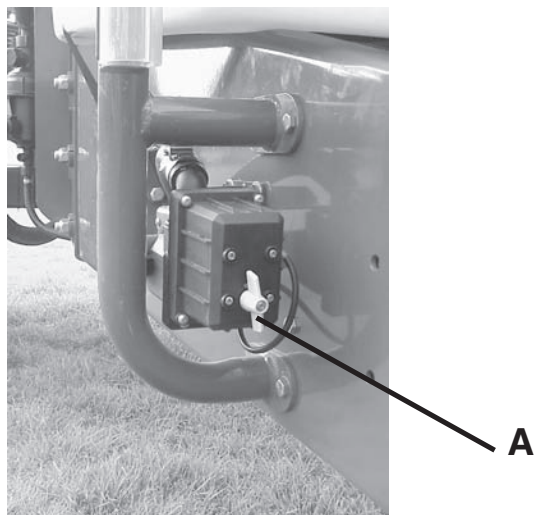

Fig 9
- 4 Decrease the pressure until the pressure control valve handle (A Fig 9) stops rotating (min. pressure).